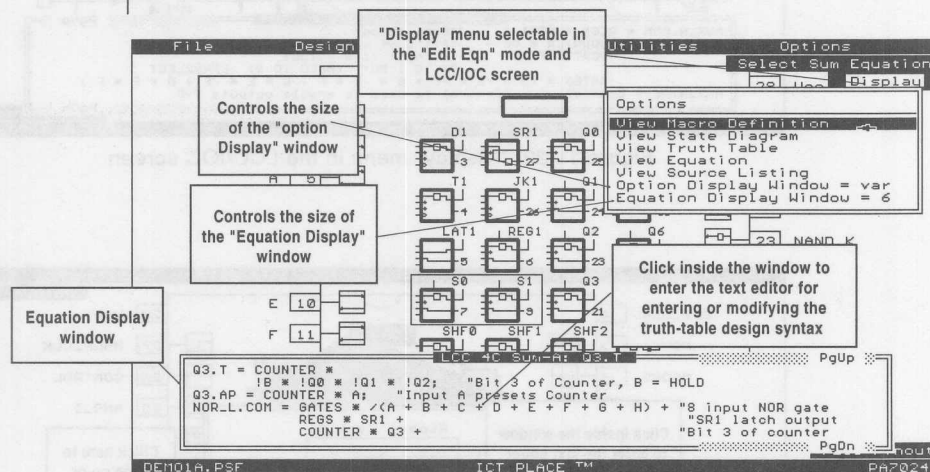

Figure 11-28. "Display" menu in "Edit Eqn" mode
The PSF Text Display Windows are the windows which can be opened to display the logic description of the current design, such as equations, state diagrams, truth tables, macro definitions, and etc. The two types of windows in the PLACE software are the Equation and Option Display windows. An Equation Display window is opened by clicking the left mouse button on any SUM or AND node (gate), state diagram block and truth table marker (indicated by Tn where n = 1 to 10). This window is always located at the bottom of the screen. Refer to Figures 11-28 through 11-30. On the other hand, the Option Display window is located at the top of the screen and is opened from the "Display" menu. The "Display" menu is selectable in the "Edit Equation" mode, LCC/IOC screen for the PEEL Arrays, and IOC screen for PEEL Devices. See Figures 11-28 and 11-29.
- ❑ The second method is to use the last two options in the "Display" menu (Figure 11-28). Click at either option to advance the number of lines for the window. This number will be used the next time the window is opened. In addition, the selection "var" ("variable") is available for both these options. This selection (illustrated by "Option Display Window = var" or "Equation Display Window = var") allows the size of the window to be dependent on the type of design syntax selected. The criteria for setting the "var" window size are: